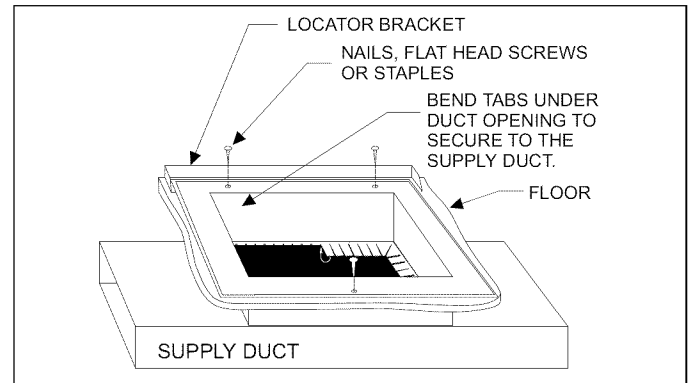

FIGURE 10: Duct Connector Tab Attachment
3. Place locating bracket (supplied with the duct connector) to the rear of the floor area for the furnace. See Figure 10.